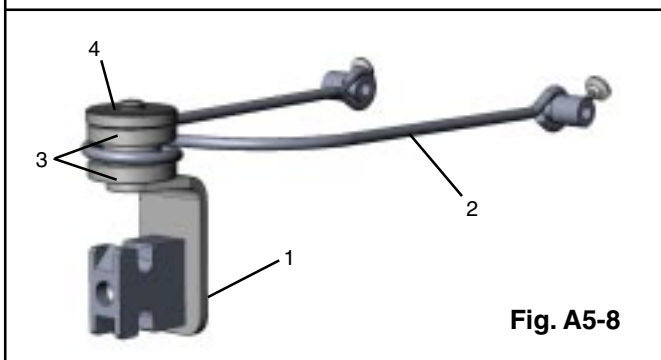

Fig. A5-8
Using pins and wires with stirrups (Fig. A5-8)
In order to apply traction through Denham or Steinman pins with a Bohler Stirrup, an insulated traction bracket (1) is required. This is assembled as shown in Fig. A5-8 with the Bohler Stirrup (2) located between the two plastic spacers (3) and held in place with the threaded metal disk (4). The complete assembly can then fitted to the traction unit in the same way as a boot (see above).